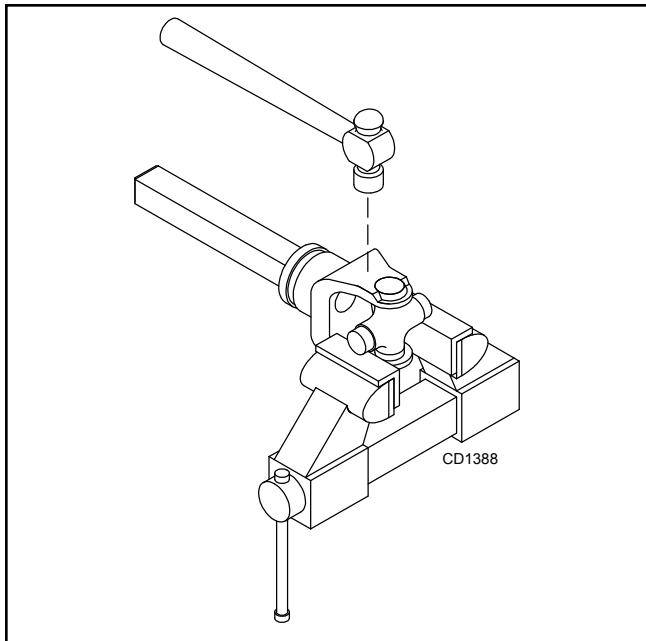

Figure 21.
- Place universal cross in vise as shown in Figure 21 and tap on yoke to remove cup. Repeat Step 3 for final removal. Drive remaining cup out with a drift and hammer.